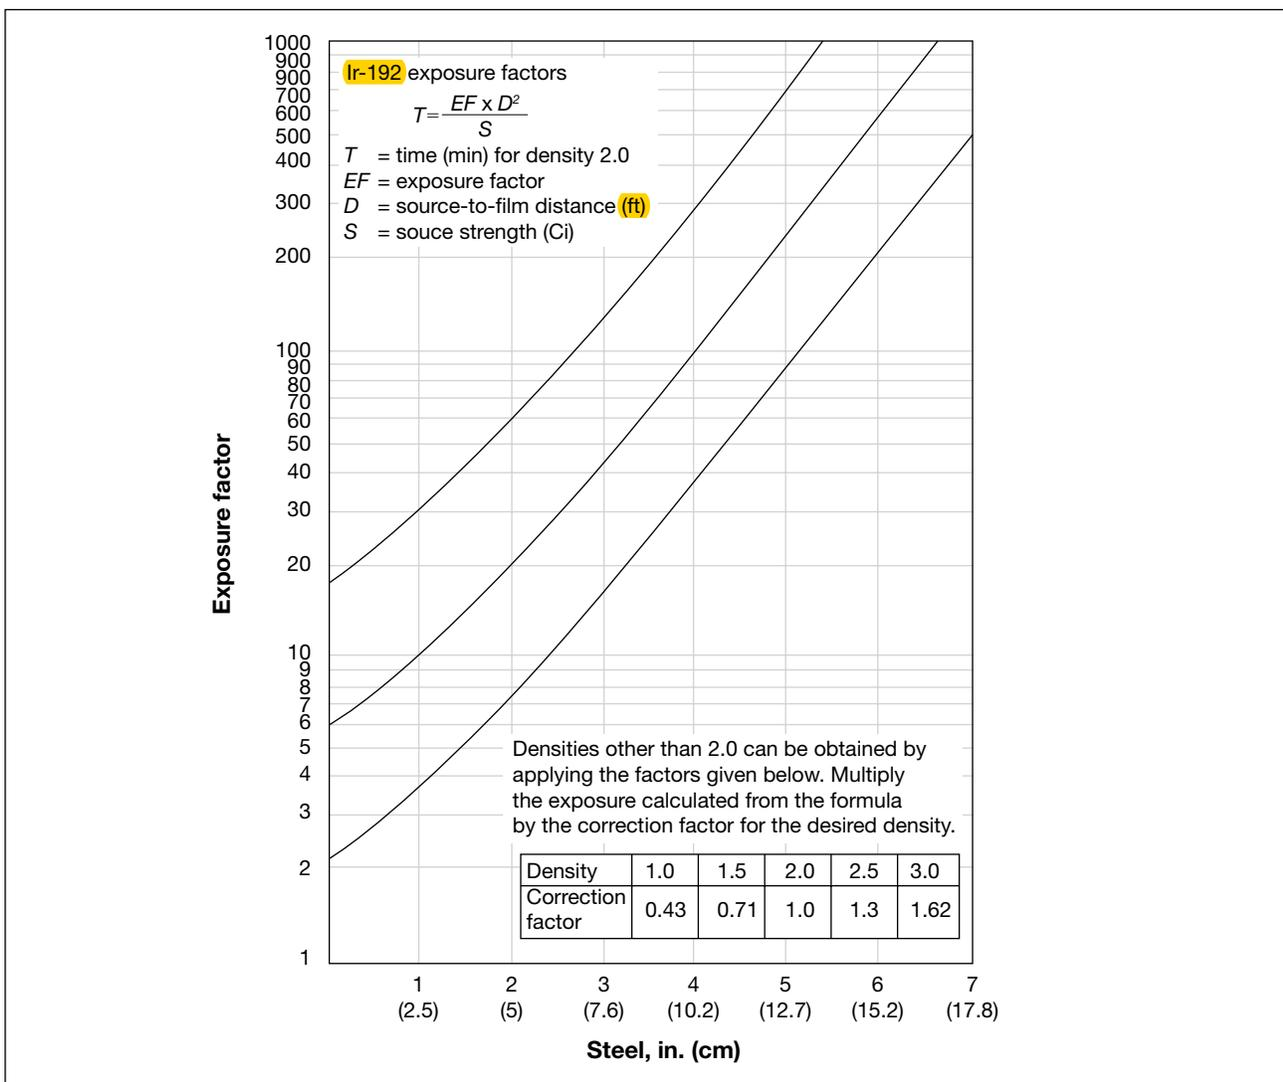

Figure 2: Typical gamma ray exposure chart.
1. A typical *gamma ray exposure chart* is shown in Figure 2.